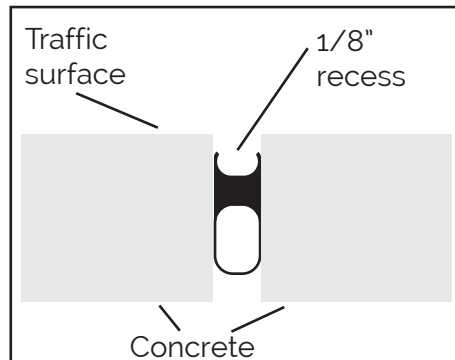

Figure 1
**Application:** Ideal installation temperatures should be 60°F(16°C) - 85°F(29°C). Sealant should be applied to the prepared joint in a continuous operation. Tool the sealant slightly concave using dry-tooling techniques. Sealant must be recessed below traffic surface. (See Figure 1).